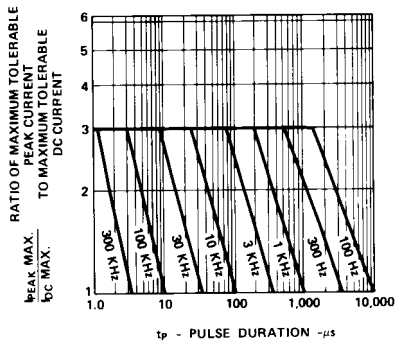

Figure 5. Maximum Tolerable Peak Current vs. Pulse Duration. ($I_{DC \text{ MAX}}$ as per MAX Ratings).
1. See Figure 5 (HER/Orange), 10 (Yellow), or 15 (Green/Emerald Green) to establish pulsed operating conditions.